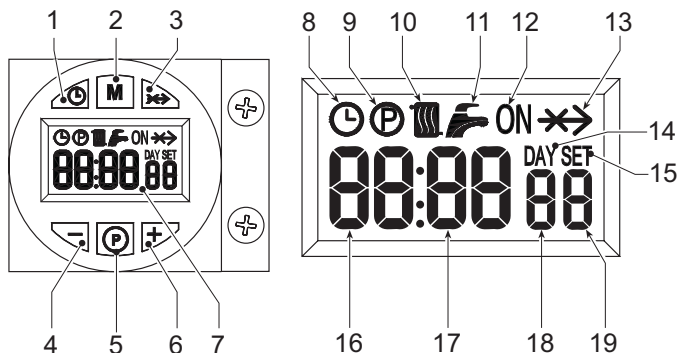

fig. 1 - Control panel
The lighting request (generated on closing of the contact on terminals 7-8 (see fig. 14), in default setting conditions) is indicated by activation of the radiator symbol (detail 10 - fig. 1).
- Press the day/time setting button (detail 1 - fig. 1).
- The **CLOCK** and **DAY** icons flash on the display (detail 7 - fig. 1): set the current day of the week with the + and - buttons (details 4 and 6 - fig. 1), considering that 1=Monday, 7=Sunday. Confirm the day by pressing the day/time setting button (detail 1 - fig. 1).
- The two digits of the **CURRENT HOUR** and the **CLOCK** icon flash on the display (detail 7 - fig. 1): set the exact hour with the + and - buttons (details 4 and 6 - fig. 1), from 00 to 23. Confirm the hour by pressing the day/time setting button (detail 1 - fig. 1).
- The two digits of the **CURRENT MINUTES** and the **CLOCK** icon flash on the display (detail 7 - fig. 1): set the exact minutes with the + and - buttons (details 4 and 6 - fig. 1), from 00 to 59. Confirm the minutes by pressing the day/time setting button (detail 1 - fig. 1). Automatic Heating, Manual On, Manual Off mode
Press the operation mode selection button (detail 2 - fig. 1) to set:
- In Automatic mode, the display (detail 7 - fig. 1), shows the **CLOCK** icon. The burner activation and deactivation request depends on the set weekly programme. In the request time band, the display (detail 7 - fig. 1) also shows the **ON** icon.
- In Manual On mode, the display (detail 7 - fig. 1) only shows the **ON** icon. The burner is always in request status.
- In Manual Off mode, the display (detail 7 - fig. 1) does not show the **ON** icon or **CLOCK** icon. The burner is off.
The weekly programme is preset with 3 **ON** time bands and 3 **OFF** time bands: equal for each day of the week. In the request time band, the display (detail 7 - fig. 1) shows the **ON** icon.
1. Press the Programming button "P" (detail 5 - fig. 1)
2. Select the day to be programmed with the + and - buttons (details 4 and 6 - fig. 1):
3. Press the Programming button "P" (detail 5 - fig. 1):
- Use the + and - buttons (details 4 and 6 fig. 1) to modify the start of the 1st ON time band; example 06:00 Press the Programming button "P" (detail 5 - fig. 1)
- Use the + and - buttons (details 4 and 6 fig. 1) to modify the start of the 1st OFF time band; example 09:00 Press the Programming button "P" (detail 5 - fig. 1)
- Use the + and - buttons (details 4 and 6 fig. 1) to modify the start of the 2nd ON time band; example 12:30 Press the Programming button "P" (detail 5 - fig. 1)
- Use the + and - buttons (details 4 and 6 fig. 1) to modify the start of the 2nd OFF time band; example 14:00 Press the Programming button "P" (detail 5 - fig. 1)
- Use the + and - buttons (details 4 and 6 fig. 1) to modify the start of the 3rd ON time band; example 16:00 Press the Programming button "P" (detail 5 - fig. 1)
- Use the + and - buttons (details 4 and 6 fig. 1) to modify the start of the 3rd OFF time band; example 23:30 Press the Programming button "P" (detail 5 - fig. 1)
11. Press the Programming button "P" (detail 5 - fig. 1) for 3 seconds to exit the programming mode.
Press the programming button "M" (detail 2 - fig. 1) for 5 seconds to access the parameters menu. The parameter "u01" is displayed: identified by the message SET 01. Press the button "P" (detail 5 - fig. 1) to scroll the list of parameters.
To modify the value of a parameter just press the + and - buttons (details 4 and 6 - fig. 1): the change will be automatically saved. After modifying the parameter, it is necessary to wait 3 seconds: the data flashes and is stored.
Press the "operation mode selection - M" button (detail 2 - fig. 1) for 5 seconds to exit the menu.
Press the programming button "P" (detail 5 - fig. 1) for 10 seconds to access the parameters menu. The parameter "t01" is displayed: identified by the message SET 01. Press the button "P" (detail 5 - fig. 1) to scroll the list of parameters.